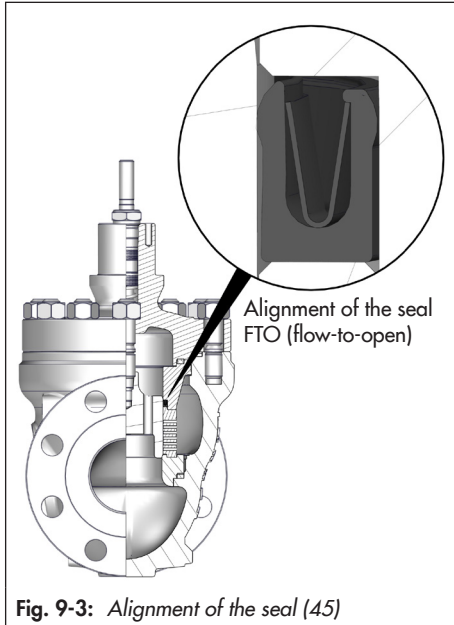
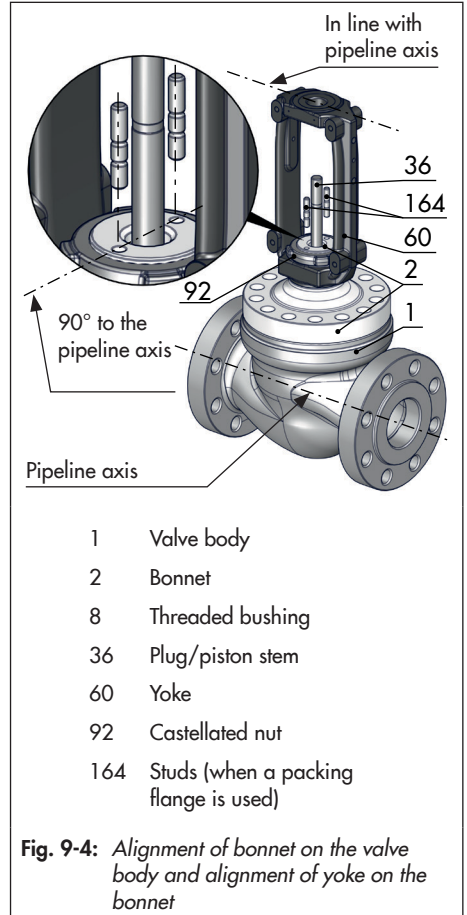

Fig. 9-3: Alignment of the seal (45)
Fig. 9-4: Alignment of bonnet on the valve body and alignment of yoke on the bonnet
6. Insert the seat retainer (124) (including pressed-in bushing (7)) upright over the plug stem (36) into the body (1) and center them on the seat (4). Use special tool for large nominal sizes. Align the openings of the seat retainer (124) symmetrically with the pipeline axis.
7. Place a new spiral gasket (126) on the seat retainer (124).
8. Insert a new spiral gasket (17) into the body (1).
9. Place the valve bonnet (2/21) including yoke (60) from the top over the plug stem (36) on the body (1). Observe the alignment (see Fig. 9-4). The two boreholes on the top of the bonnet must be at a right angle to the pipeline axis.
10. Press the plug (5) firmly into the seat (4), while fastening down the valve bonnet (2/21) with the body nuts (14). Tighten the body nuts (14) gradually in a criss-cross pattern. Observe tightening torques.
7. Insert the support element (63) (including the pressed-in bushing (7)) upright over the plug stem (36) into the body (1) until it rests on the seating surface inside the body. Use special tool for large nominal sizes.
8. Place a new spiral gasket (126) on the support element (63).
9. Insert a new spiral gasket (17) into the body (1).
10. Place the valve bonnet (2/21) including yoke (60) from the top over the plug stem (36) on the body (1). Observe the alignment (see Fig. 9-4). The two boreholes on the top of the bonnet must be at a right angle to the pipeline axis.
11. Press the plug (5) firmly into the seat (4), while fastening down the valve bonnet (2/21) with the body nuts (14). Tighten the body nuts (14) gradually in a criss-cross pattern. Observe tightening torques.
3. Insert a new spiral gasket (127) into the body (1) in the seat bridge area.
4. Place the seat (4) on the spiral gasket (127) in the body (1).
5. Insert the cage (424) into the body (1) and position it on the seat (4), while aligning the cage (424) within the valve body to ensure that the largest opening faces toward the valve outlet.
6. Insert the piston (5) together with the piston stem (36) upright through the cage (424) into the valve body (1) and position on the seat (4).
7. Place a new seal (45) on the cylinder (463). Make sure the seal is properly aligned (see Fig. 9-3).
8. Place the cylinder (463) together with the seal (45) over the piston stem (36) on the cage (424).
9. Place a new spiral gasket (126) on the cylinder (463).
10. Insert a new spiral gasket (17) into the body (1).
11. Place the valve bonnet (2/21) including yoke (60) from the top over the piston stem (36) on the body (1). Observe the alignment (see Fig. 9-4). The two boreholes on the top of the bonnet must be at a right angle to the pipeline axis.
12. Press the piston (5) firmly into the seat (4), while fastening down the valve bonnet (2/21) with the body nuts (14). Tighten the body nuts (14) gradually in a crisscross pattern. Observe tightening torques.